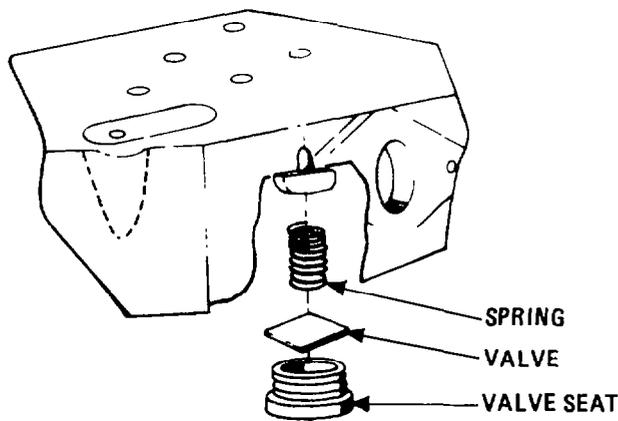

Fig. 378 — Removing Discharge Valve, Valve Stop and Seat
- f. Unscrew and remove the discharge valve seats, then remove the discharge valves and springs from the head (see fig. 378).